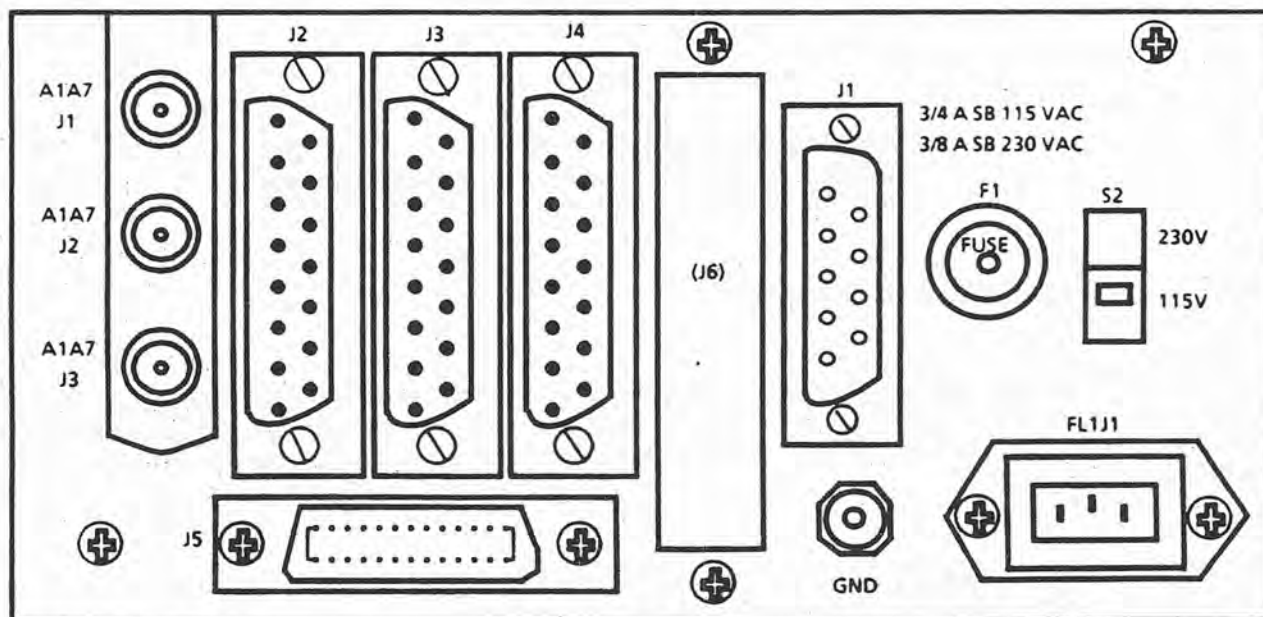

Figure 2-1. WJ-9205 Signal Monitor, Rear Panel Connectors
Access to the rear panel is recommended so that input and output connections can be changed conveniently, if desired. The rear panel connections are described in Table 2-1. As a reference for the rear panel connectors, see Figure 2-1.
**2.2.1.4 Receiver #1 Interface Connector (J2)** — This 15-pin D-type connector is used to connect Receiver #1 to the Signal Monitor when Receiver #1 is a WJ-8615D Receiver whose frequency range has been extended to 500 MHz. Figure 2-1 depicts the pin configuration. As shown, pin 1 is the bottom pin of the left column and pin 9 is the bottom pin of the right column. Pin 6 accepts a HIGH or LOW TTL signal. Pin 2 is ground. See paragraph 1.4.
**2.2.1.5 Receiver #2 Interface Connector (J3)** — This 15-pin D-type connector is used to connect Receiver #2 to the Signal Monitor when Receiver #2 is a WJ-8615D Receiver whose frequency range has been extended to 500 MHz. Figure 2-1 depicts the pin configuration. As shown, pin 1 is the bottom pin of the left column and pin 9 is the bottom pin of the right column. Pin 6 accepts a HIGH or LOW TTL signal. Pin 2 is ground. See paragraph 1.4.
**2.2.1.6 Receiver #3 Interface Connector (J4)** — This 15-pin D-type connector is used to connect Receiver #3 to the Signal Monitor when Receiver #3 is a WJ-8615D Receiver whose frequency range has been extended to 500 MHz. Figure 2-1 depicts the pin configuration. As shown, pin 1 is the bottom pin of the left column and pin 9 is the bottom pin of the right column. Pin 6 accepts a HIGH or LOW TTL signal. Pin 2 is ground. See paragraph 1.4.